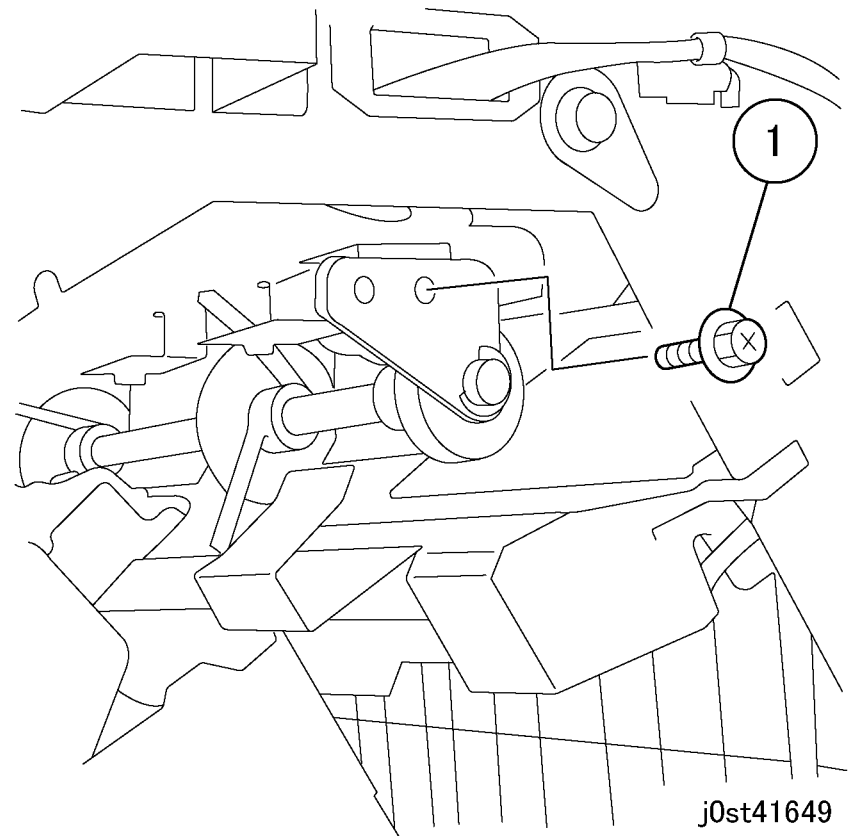

Figure 2 Removing the screw
4. Remove the screw securing the Paddle Gear Shaft. (Figure 2)